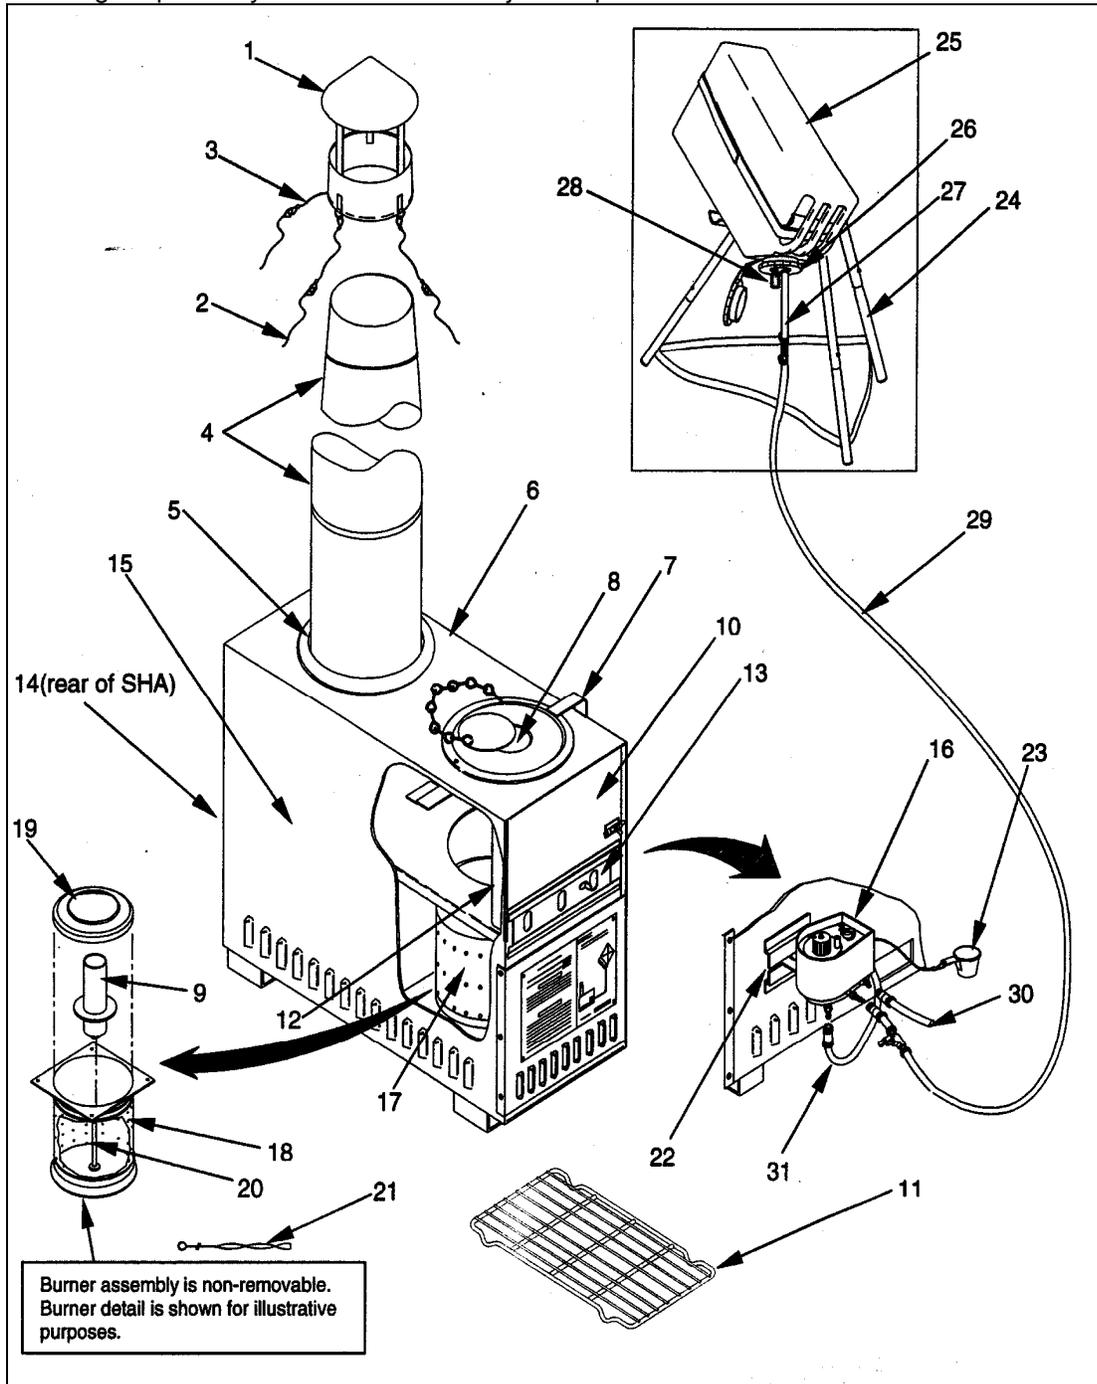

Figure 3: Location of Major Components
b. The SHA utilizes the area inside its shell for the storage of components during movement and storage. Some of the components are stored behind the front door while others are stored behind the rear door (See Figure 3). To unpack the SHA:
(1) To unpack the SHA, press down on the spring-tensioned Rear Door (1) and remove the Fuel Flow Control Valve (2), Stack Cap Assembly with Tent Lines (3), and Gravity Feed Adapter (4).